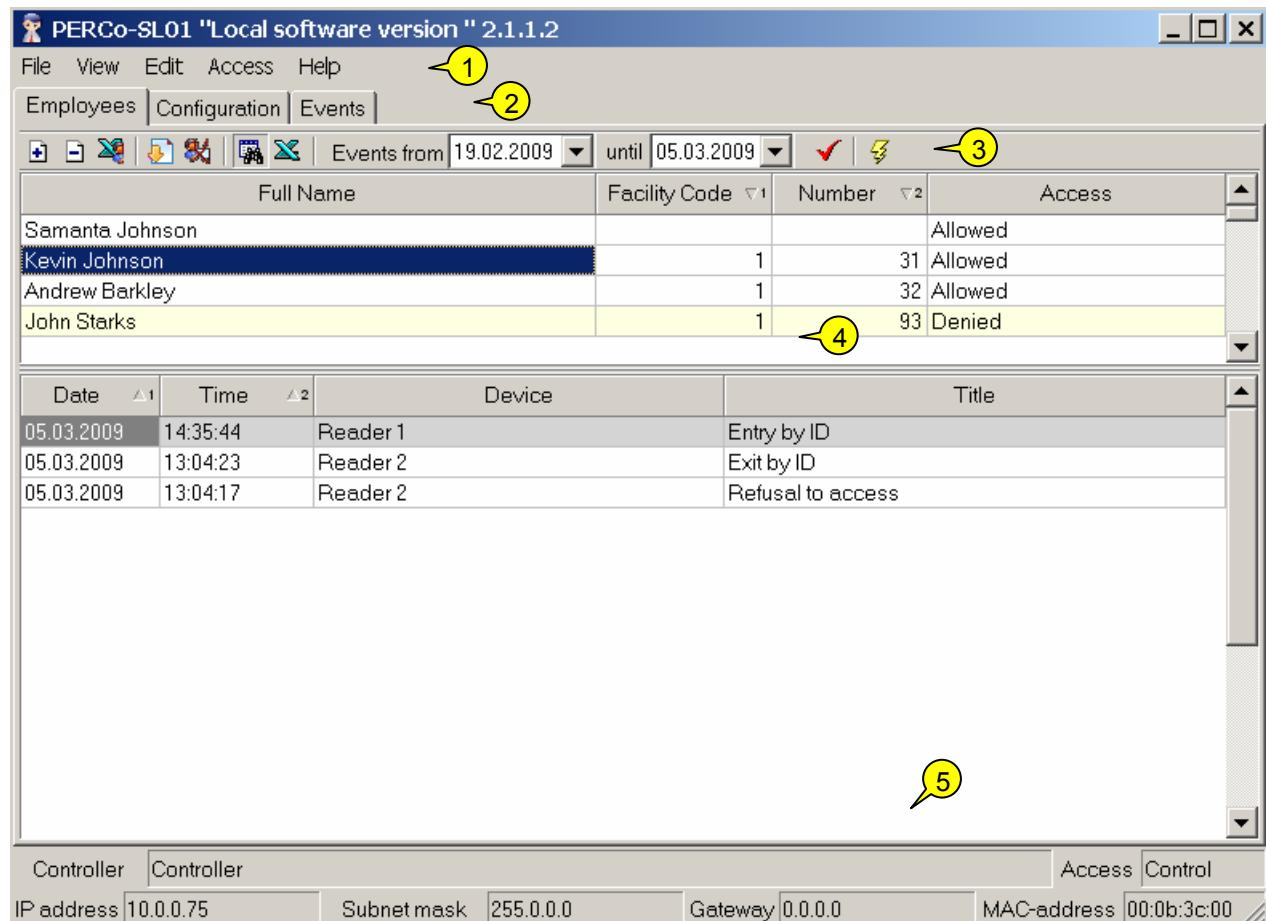

Fig.1. Employees section work window
1. Click on the **Add Employee** button . A yellow highlighted line will appear in the list (refer to NOTE κ fig.1).
4. The Access column displays the **Allowed** default option, informing that this employee is authorized to pass through a certain operating device (OD) in the set access mode. For how to authorize/deny access refer to the Access Authorization/Denial section below.